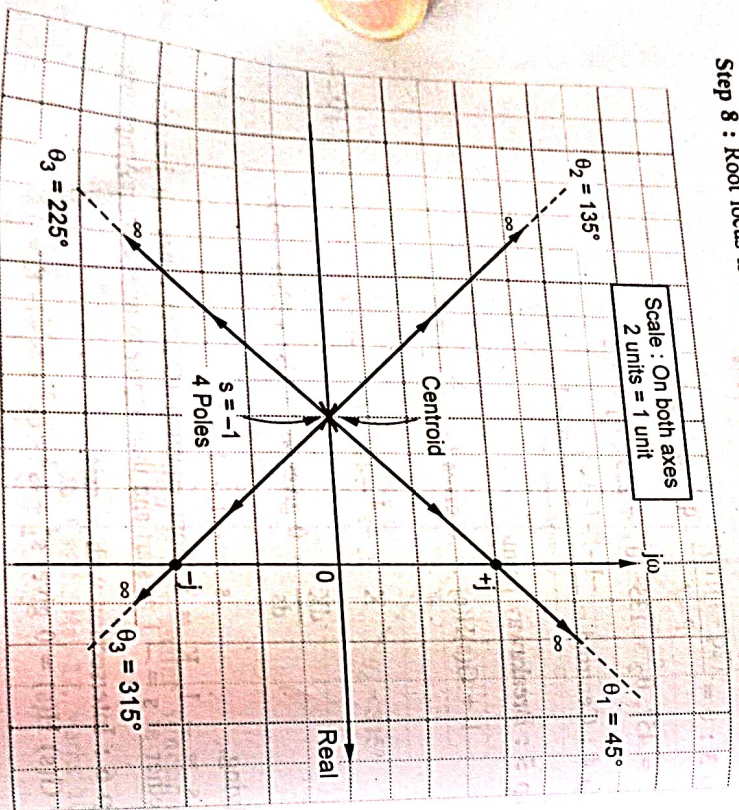

Fig. Q.24.1(b)
Step 8 : Root locus is shown in the Fig. Q.24.1(b).